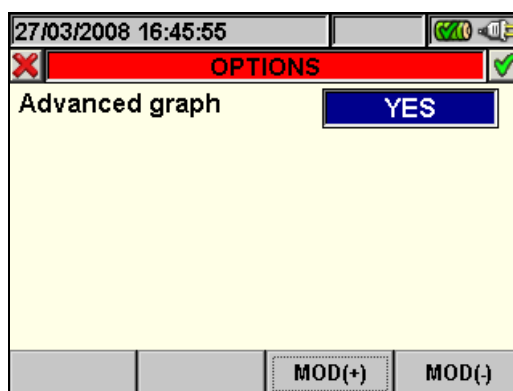

Fig. 93: Options (Advanced graph)
- **F4** key (or **OPTIONS** item on the display) to access the page for the activation of the “Advanced graph” (Fig. 93)
2. Press the **F4** key (or the **OPTIONS** item on the display) to access the page for the activation of the Advanced graph (Fig. 93).